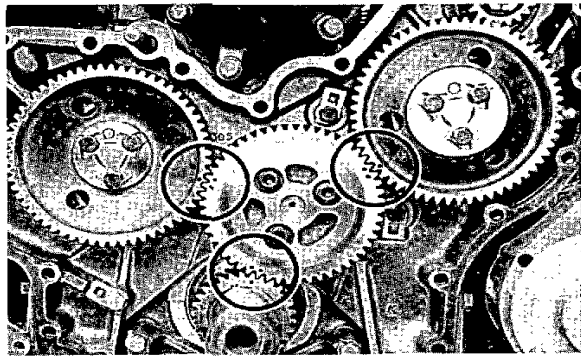
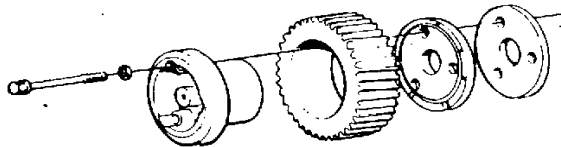

Fig. 68. Basic setting of auxiliary drive gears
Fig. 69. Idler gear
All the gears in the auxiliary drive assembly which influence the settings are marked with a punch mark opposite the respective tooth or tooth gap (fig. 68).
3. Rotate the crankshaft so that no. 1 piston is in the top dead centre position. Assemble the idler gear according to the marking (fig. 68). The bearing shield and thrust washer are located as shown in fig. 69. Tightening torque 60 Nm (6 kpm = 44 lbf.ft.). Check that the axial clearance is 0.05–0.15 mm (0.002–0.006”).
4. Check that the locating pin is fitted in the shaft for the injection pump and fit the pump drive. Make sure that the markings correspond with fig. 68.